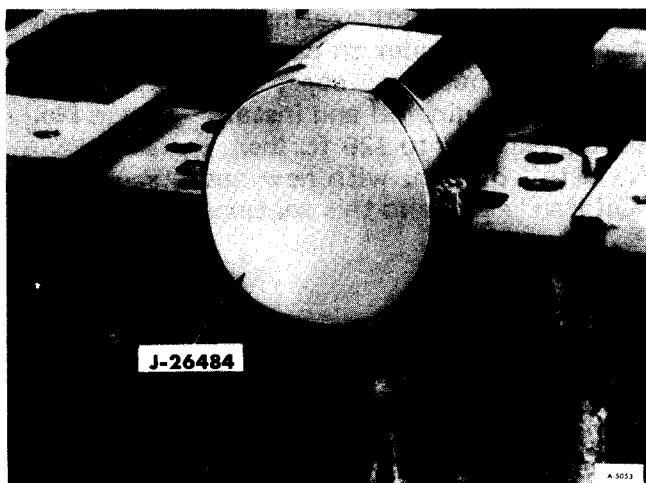

Figure 87—Installing Rear Main Seal - Upper Half
3. Install a new rear main bearing upper seal. Use tool J-26484 as shown in figure 87.